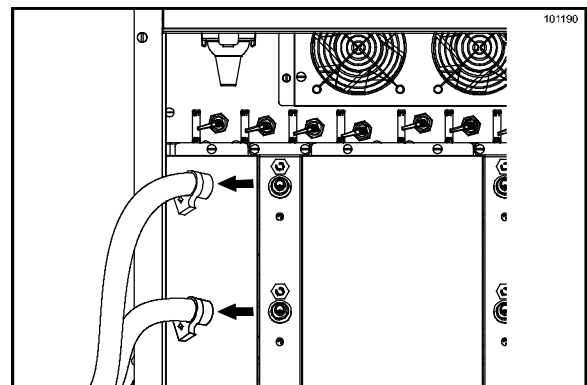

Figure 101
50. Remove the cleaning tubes from the inlet fittings and place them in an empty pail. (See Figure 101.)